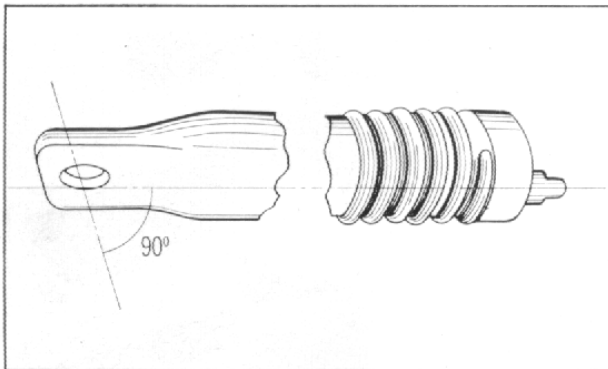

Fig. 69
- (1) In assembling the front cushion, it must be so assembled that the lug on the upper holder be perpendicular to the flat part of the fork slide pipe. (Fig. 69)
- (2) Apply grease inside the cushion housing spring, dust seal, upper and under holders.
- (3) When replacing the spring with a new one, grease should be applied on the new parts as above.
- (4) In assembling the spring to the upper holder, vinyl tape wounded around the holder apt to result in damage, re-wind it with new tape if required.